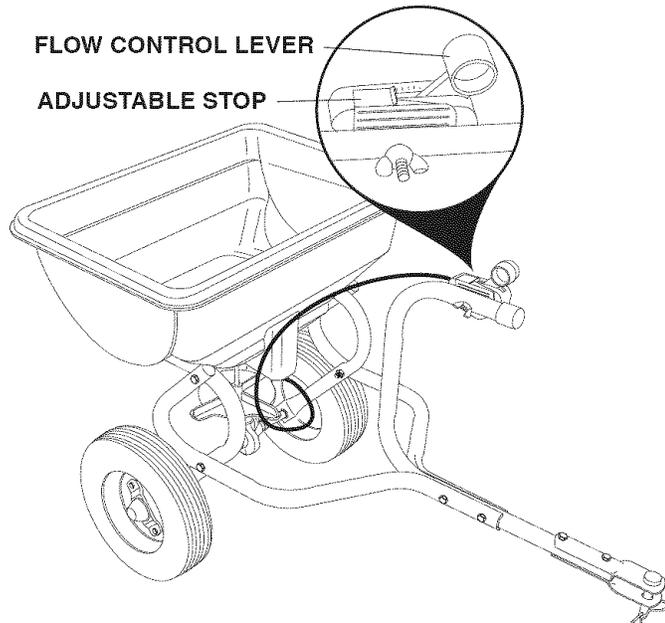

FIGURE 11
- Slide the Adjustable stop to the desired setting and retighten the wing nut. See figure 11.